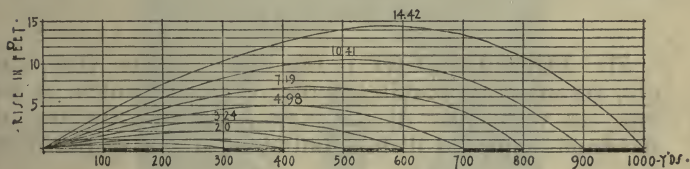

FIG. 4.—Curves of Trajectories of Rifle Bullets for Different Ranges.
**50. TRAJECTORY** (Fig. 4.) The bullet, in traveling from the barrel to the mark, does not go in a straight line but in a curve like a baseball and is influenced by—